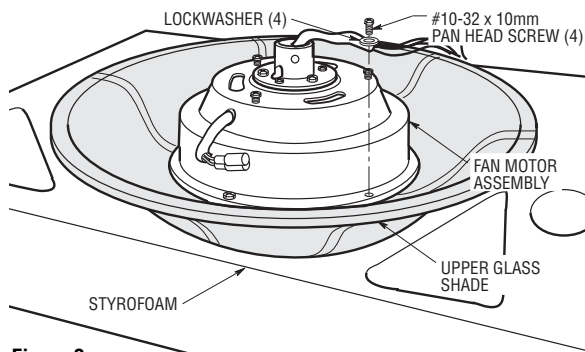

Figure 2
3. Attach the fan motor assembly to the upper glass shade using the four #10-32 x 10mm pan head screws and lockwashers (supplied) (Figure 2).